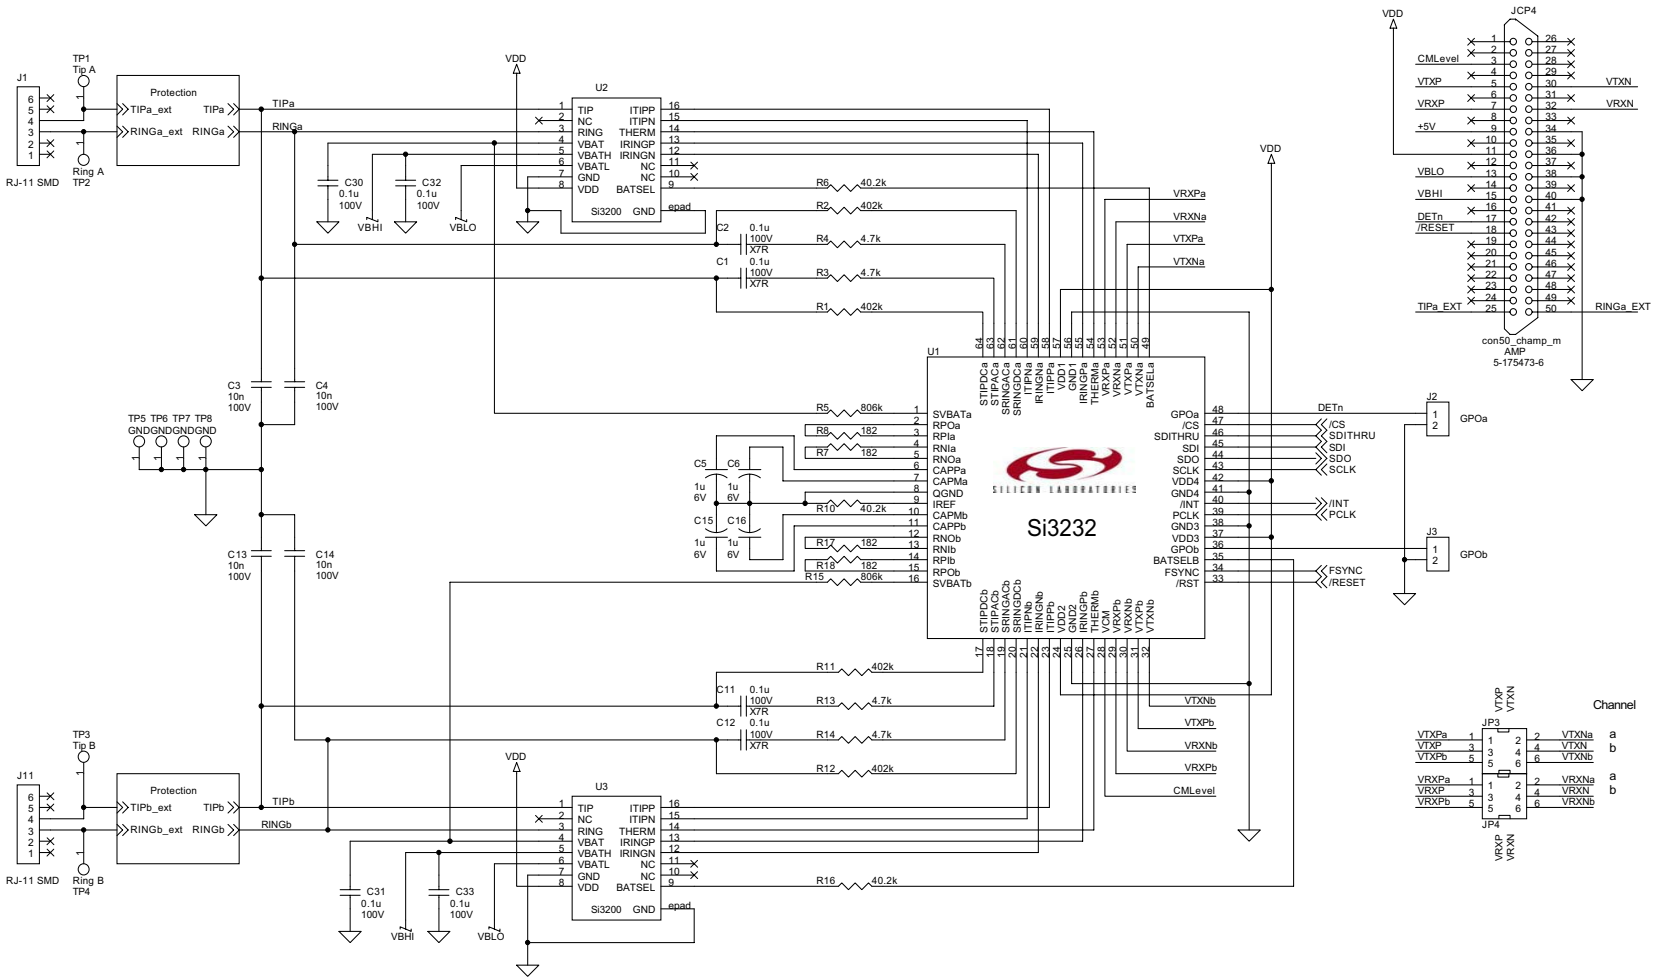

Figure 1. Si3232DC0-EVB Evaluation Circuit (1 of 3)
The schematics for the Dual ProSLIC evaluation daughter card are shown in Figures 1 through 3. The schematic in Figure 1 shows the Dual ProSLIC linecard implementation. All circuitry pertaining to the telephony function of the Dual ProSLIC is found here. Four-wire analog is present on JP3 and JP4. Figure 2 contains a number of options for secondary fault protection. Secondary protection components can be selected for a given level of protection against expected faults. Figure 3 is the schematic that describes the serial control interface, daisy chain ports, and power supply filtering and connections. These schematics represent typical linefeed components for the ProSLIC.
- Figures 1 through 11 updated.